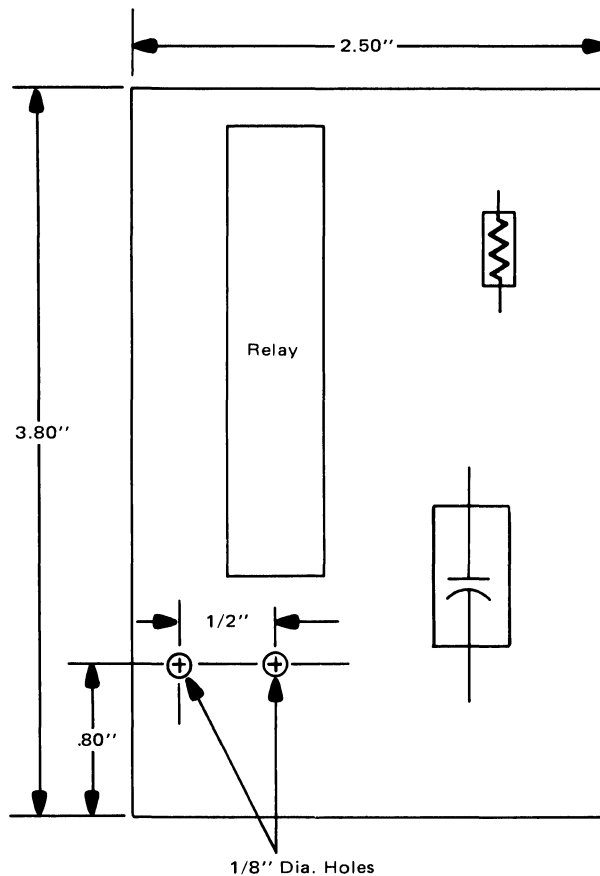

FIGURE 1. Component Board
- a. Install the resistor, capacitor, and relay on the component board, as depicted in Figure 1.